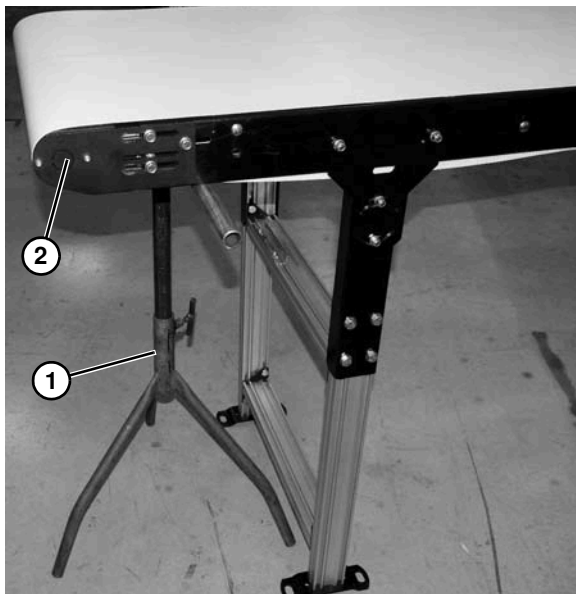

Figure 6
- Place temporary support stands (**Figure 6, item 1**) at both ends of the conveyor.
- Roll out conveyor belt and place conveyor frame sections (**Figure 6, item 2**) into belt loop.